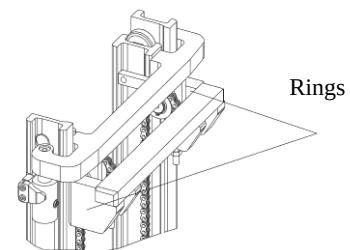

Figure 2-19
(1) Lifting description of the lifting system as shown in Figure 2-19